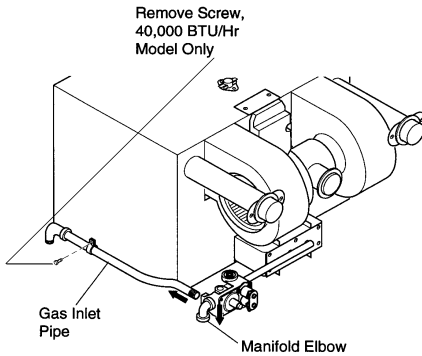

Figure 12 - Disconnecting Gas Inlet Pipe (40,000 BTU/Hr Model Shown)
- 5. **40,000 BTU/Hr Model Only:** Remove screw holding gas inlet pipe clamp to furnace. (See Figure 12).
- 6. Disconnect gas inlet pipe from 3/8" manifold elbow. Turn gas inlet pipe counterclockwise to disconnect (see Figure 12).
- 7. Rotate the 3/8" manifold elbow 90° so the opening is pointing downward (see Figure 12).